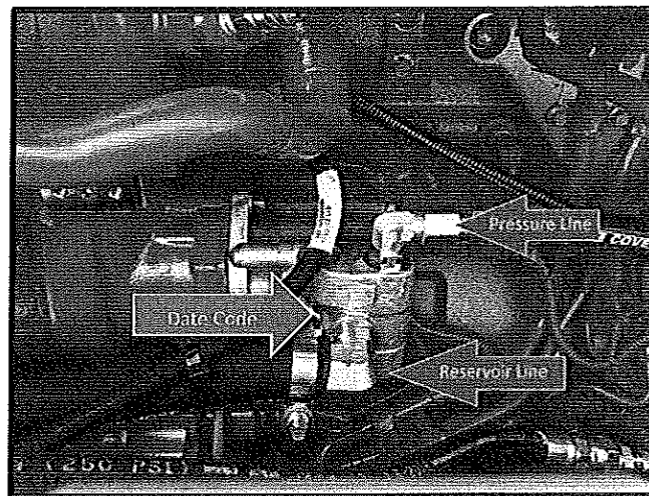

**FIG. 4-1**
2. Open engine access hatch towards rear of coach. Hatch location and mounting can vary from coach to coach. Refer to FIG. 4-1.